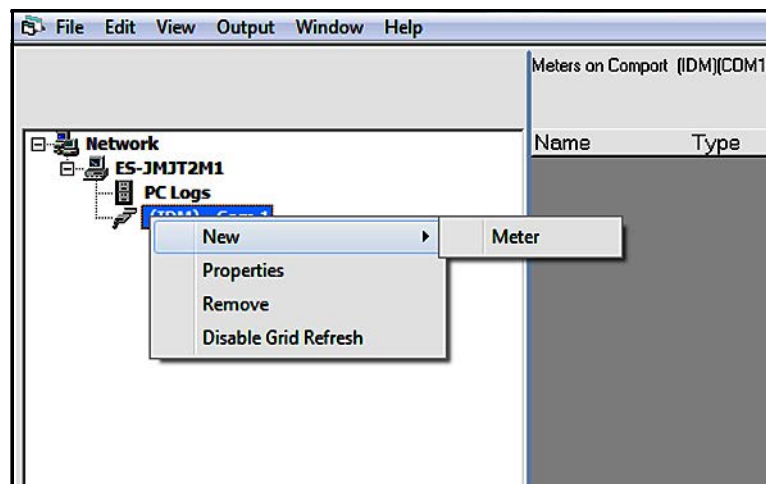

Figure 30: The Edit Menu
3. Click on the “New” option in the “Edit” menu (see *Figure 30* below).